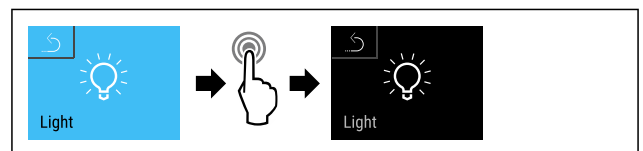

Fig. 71
- ▶ Complete steps (see Fig. 71).